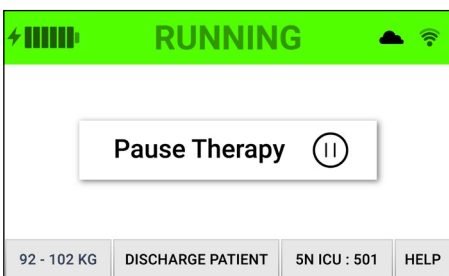

Figure 8 Running screen: procedural area use systems
6. Therapy will begin with running screen visible. (Fig. 8)